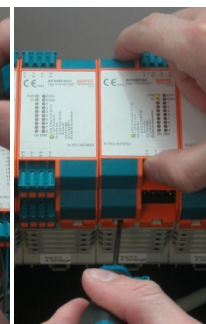

Figure 4
- (2) Loosen the interlocking between the upper section and the lower section (fig. 4).